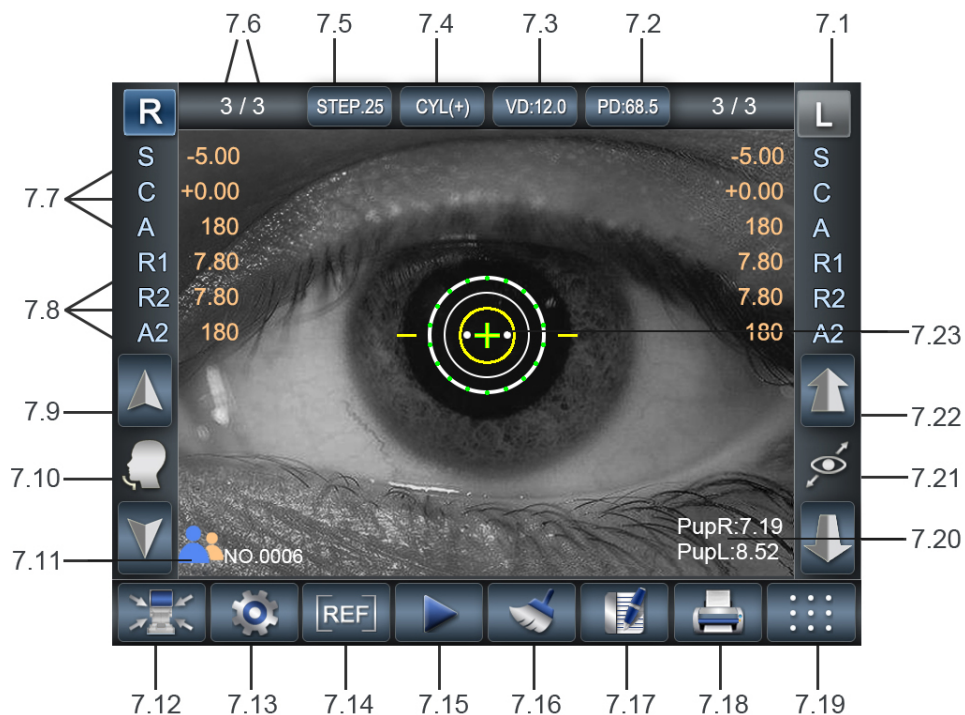

Figure 9
7. LCD SCREEN DISPLAY (Figure 9)